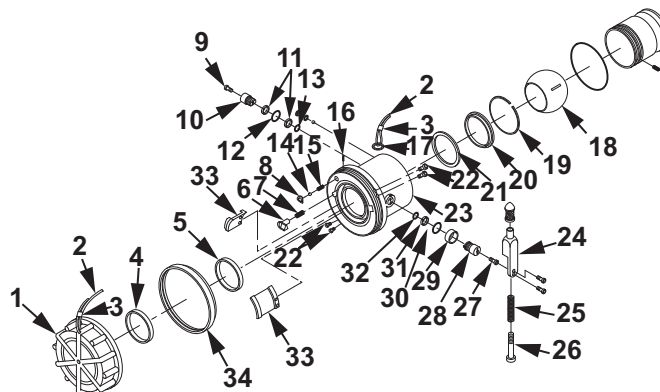

Figure 2. Valved Dry-Break Coupling Assembly.
Do not remove spring washer (Figure 2, Item 8), ball bearing (Figure 2, Item 14) or spring (Figure 2, Item 15). If replacement of ball bearing (Figure 2, Item 14) is required, then coupling (Figure 2, Item 23) must be replaced.
If it is necessary to replace lockout pin (Figure 2, Item 6), perform the following removal steps.
36. Remove spring pin (Figure 2, Item 16) from coupling (Figure 2, Item 23).
37. Remove lockout pin (Figure 2, Item 6) from coupling (Figure 2, Item 23).
38. Remove spring (Figure 2, Item 7) from coupling (Figure 2, Item 23).
2. Inspect bumper (Figure 2, Item 34) for cracks, tears or cuts. If cracks, tears or cuts are found, replace with a serviceable like item.
3. Inspect dust cap (Figure 2, Item 1) for cracks or damage. If cracks or damage is found, replace with a serviceable like item.
The purpose of ball bearing (Figure 2, Item 14) is to provide electrical continuity between mating surfaces.
4. Inspect spring loaded ball bearing (Figure 2, Item 14) located in face of coupling for damage. Push the
ball bearing (Figure 2, Item 14) in and ensure it pops back into place. If damage is found or ball bearing does not pop back into place, replace coupling (Figure 2, Item 23).
5. Inspect control arm (Figure 2, Item 24) for cracks or damage. If cracks or damage is found, replace with a serviceable like item.
If it was necessary to replace lockout pin (Figure 2, Item 6), perform the following installation steps.
1. Install spring (Figure 2, Item 7) into coupling (Figure 2, Item 23).
2. Install lockout pin (Figure 2, Item 6) into coupling (Figure 2, Item 23).
3. Install spring pin (Figure 2, Item 16) into coupling (Figure 2, Item 23).
If it was necessary to replace bumper (Figure 2, Item 34) or lugs (Figure 2, Item 33), perform the following installation steps.
4. Position lugs (Figure 2, Item 33) in coupling (Figure 2, Item 23).
5. Install screws (Figure 2, Item 22) into coupling (Figure 2, Item 23).
6. Install new seal (Figure 2, Item 5) into coupling (Figure 2, Item 23) interface.
7. Using torque wrench and screwdriver bit, torque screws (Figure 2, Item 22) to 6 in. lb (0.70 N-m).
8. Position bumper (Figure 2, Item 34) with thin lip seal end facing away from coupling (Figure 2, Item 23).
9. Install bumper (Figure 2, Item 34) on coupling (Figure 2, Item 23).
If it was necessary to replace dust cap (Figure 2, Item 1), perform the following 5 installation steps.
10. Install new seal (Figure 2, Item 4) on dust cap (Figure 2, Item 1).
11. Loop one end of 18 in. cable (Figure 2, Item 2) through sleeve (Figure 2, Item 3), dust cap (Figure 2, Item 1) and back through sleeve (Figure 2, Item 3).
12. Using pliers, crimp sleeve (Figure 2, Item 3).
13. Loop other end of 18 in. cable (Figure 2, Item 2) through sleeve (Figure 2, Item 3), split ring (Figure 2, Item 17) and back through sleeve (Figure 2, Item 3).
14. Using pliers, crimp sleeve (Figure 2, Item 3).